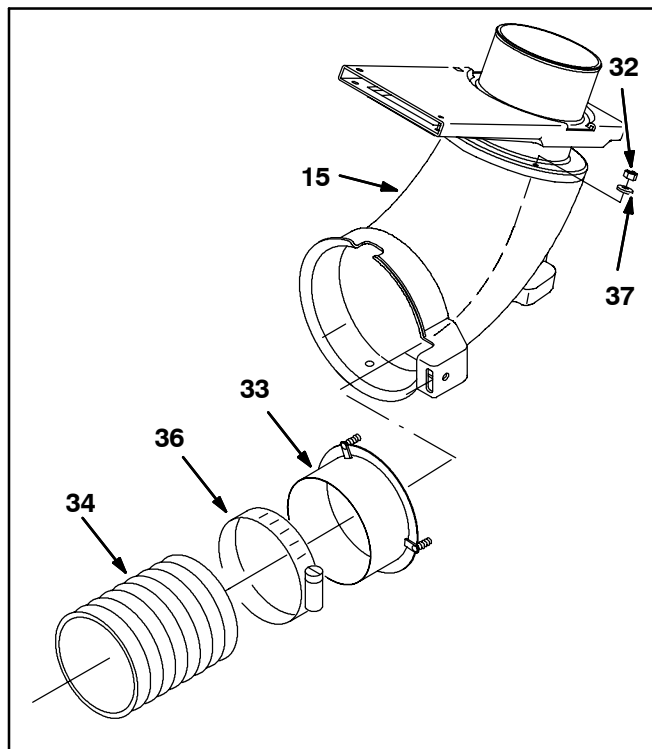

FIG. 8
10. Use a bridge clamp (36) to attach one end of the 204L vacuum hose (34) to the wand plate (33). Refer to Fig. 8.
11. Use three hex nuts (32) and three flat washers (37) to install the wand plate (3)-with the 204L hose (34) already installed-into the upper wand tube (15). Refer to Fig. 8.